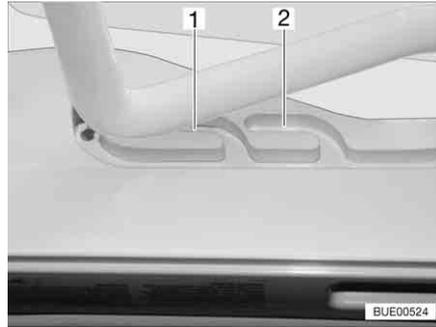
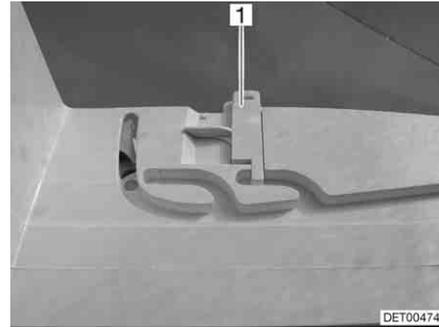

Fig. 118 Heki skylight in ventilation position
Fig. 119 Ventilation position locking mechanism
The Heki skylight can be put in two ventilation positions: Bad weather position (Fig. 118,1) and central position (Fig. 118,2). Depending on the model, the skylight can be locked in the central position with both left and right latches (Fig. 119,1) on the skylight frame.
- Push the bar slightly upwards and into the selected guide (Fig. 118,1 or 2) and lock if necessary.